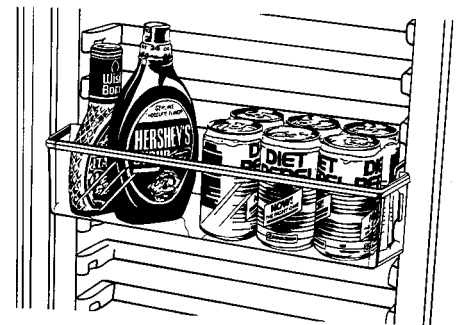

FIGURE 79
**Door Buckets.** There are three deep door buckets that can be moved up or down to fit storage needs. The deep door buckets allow for easy storage of six-pack items for convenience. See Figure 79. To remove the door buckets follow the instructions on page 29 for chiller bucket removal. To install the door buckets follow the instructions on page 30.